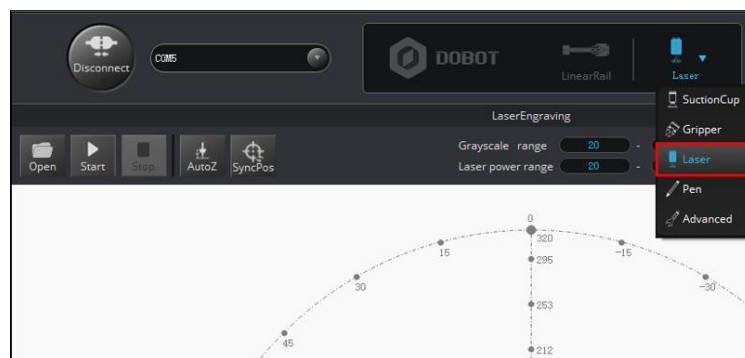

Figure 5.94 Choose Laser as the end-effector
Step 1 Choose **Laser** as the end-effector on the **LaserEngraving** page, as shown in Figure 5.94.